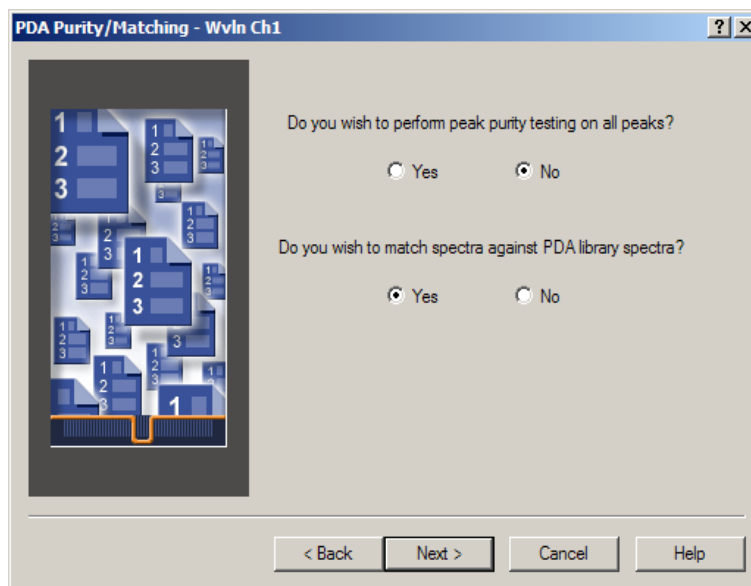

Figure 4-23 PDA Purity/Matching Page
- Click **1** to the left of the Name column in the first row. Press **Shift** and click **3** to the left of the Name column in the third row. All rows are highlighted. Press **Delete** on your keyboard to remove all entries from this table. Click **Next** on this page and successive pages until the PDA Purity/Matching page appears (Figure 4-23).